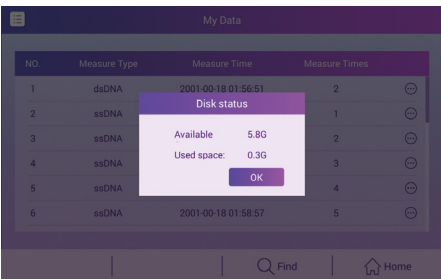

Figure 18
- (1) Disk status: Click "Data Browsing" in the main interface to enter the data browsing home page, click the menu bar in the upper left corner to pop up the menu, click the disk status, and view the current disk space usage of the instrument, as shown in Figure 18.